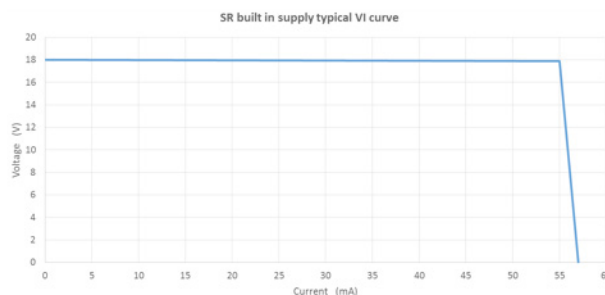

Figure 9. Typical VI curve for SR interface.
- The SR bus voltage will be between 12V and 20V depending on the connected device load and the amount of SR supplies put in parallel. See the graph below (Figure 9) for the typical VI curve for one SR supply. See datasheet for details.